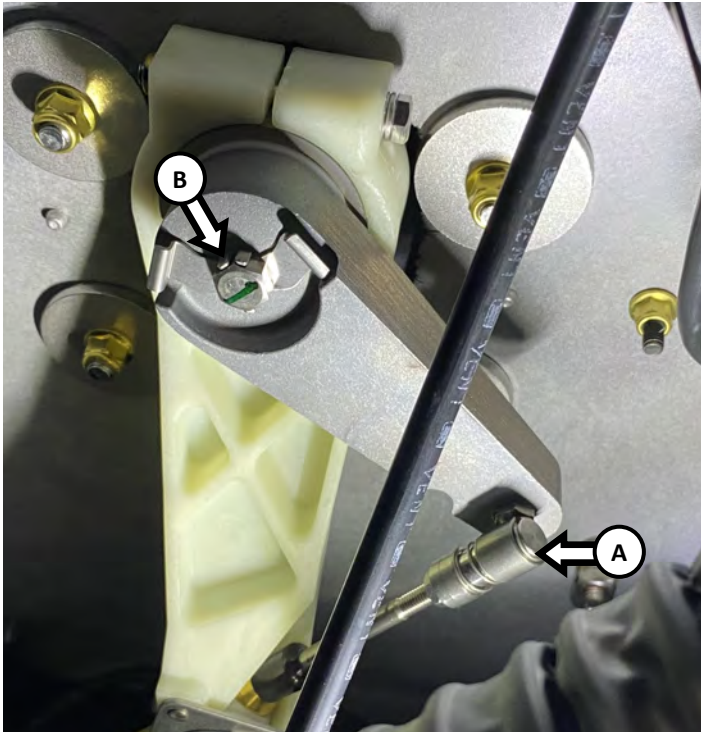

Figure 7
Working inside hull, disconnect steering cable from ball joint on steering arm (A). Pry tabs (3) away from head of bolt securing steering arm to steering shaft (B). Remove bolt and steering arm completely. (See figure 7)